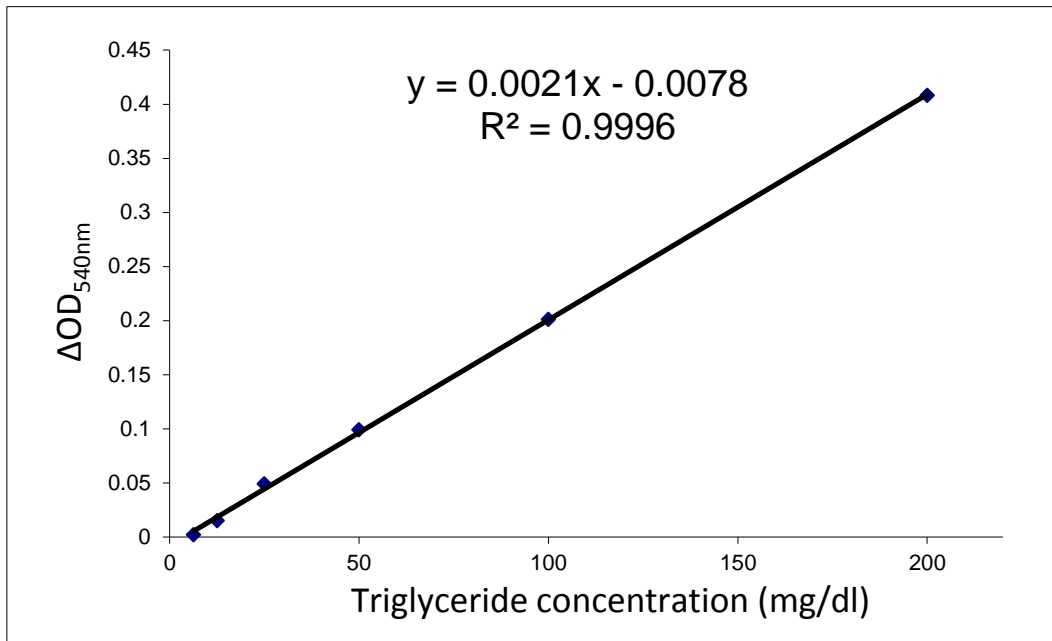

Figure1. A typical triglyceride standard curve measured by the ScienCell™ Triglyceride Assay kit
Data from the Triglyceride Assay kit measuring triglyceride solutions with concentrations ranging from 6.25 to 200 mg/dL show a linear relationship between OD_{540nm} and triglyceride concentration (Figure 1).
2. Based on the calibrated $\Delta\text{OD}_{540\text{nm}}$ of the triglyceride standard, make a standard curve by plotting $\Delta\text{OD}_{540\text{nm}}$ as a function of triglyceride concentration (See Figure 1 for a typical standard curve). Determine the equation and R^2 value of the trend line.